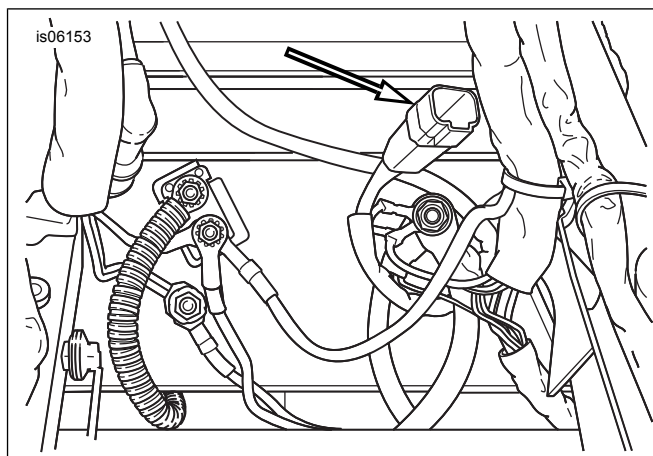

Figure 2. Accessory Connector [4] Location Under Seat
4. Obtain the adapter harness (7) from the kit. See Figure 2. Locate the four-way accessory connector [4] in the area under the seat. Remove the plug from the accessory connector.